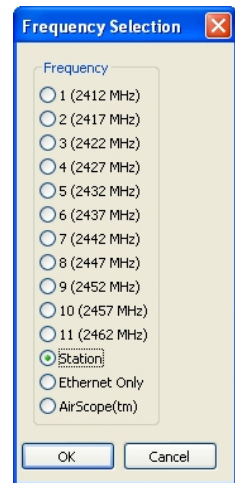

Figure 23: Station
1. Starting a new network of ESTeem 195Es in Mobile Client mode is the same as any of the Bridge modes except when you are asked for the frequency (channel) of operation, select "Station" (Figure 23).